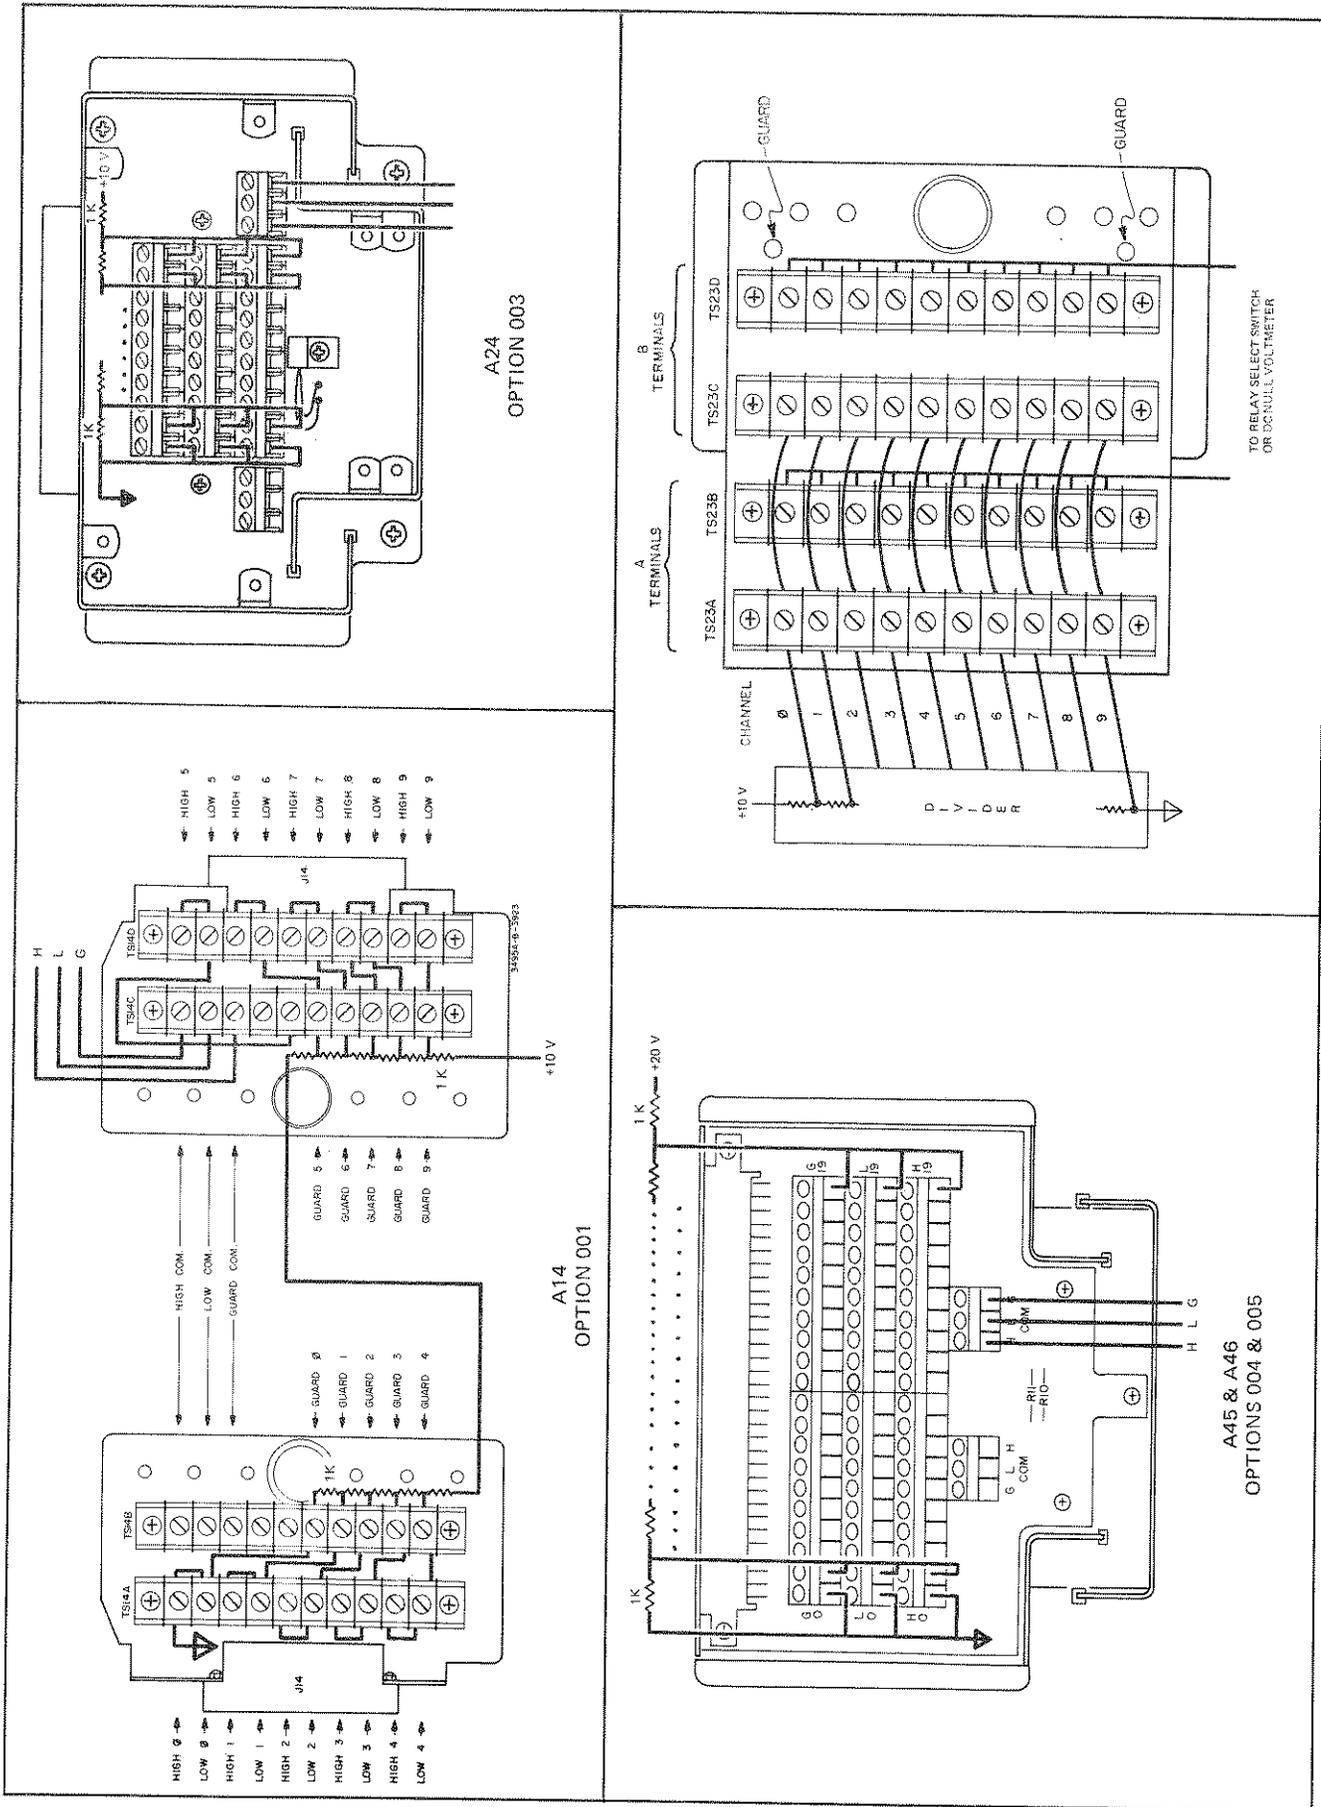
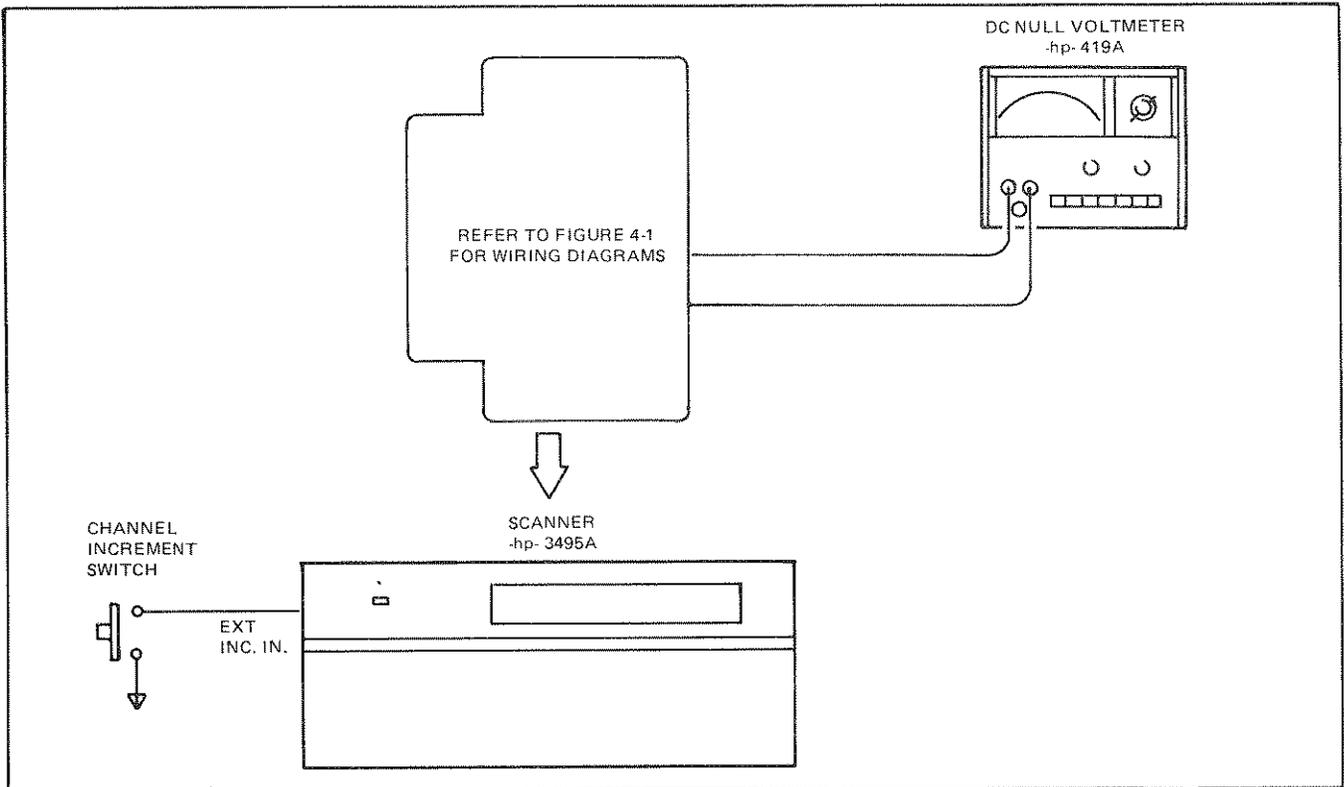

Figure 4-1. Switching Time And Thermal Offset Test Wiring Diagrams.
Figure 4-4. Thermal Offset Voltage Setup.
- b. Wire the divider network as shown in Figure 4-1.
- a. Connect the test setup as shown in Figure 4-4. The connector wiring in Figure 4-1 can be used for this test also.
- g. Repeat Steps b through f for all channels to be tested. The actuator channel measurements require rewiring the connector for each channel measured, unless common connections are wired as in Figure 4-1.